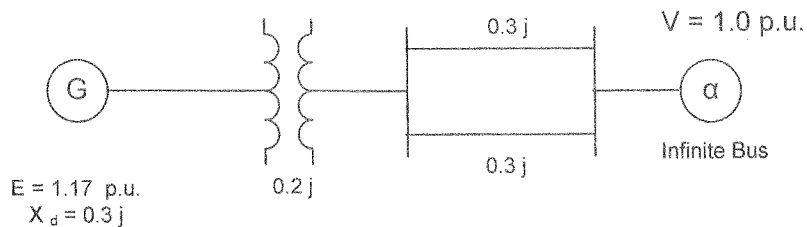

Figure Q2
- c) A 2200 MVA, 24 kV and 60 Hz synchronous machine is connected to an infinite bus through a transformer and a double circuit line as shown in Figure Q2. The infinite bus voltage is 1.0 per unit. The direct axis transient reactance of the generator is 0.3 per unit. The transformer reactance is 0.2 per unit and the reactance of each transmission line is 0.3 per unit. Initially the machine is delivering 0.8 per unit real power and reactive power is 0.074 per unit with a terminal voltage of 1.0 per unit. The inertia constant (H) is 5 MJ/MVA. All per unit quantities are calculated to a base of the rating of the synchronous machine.